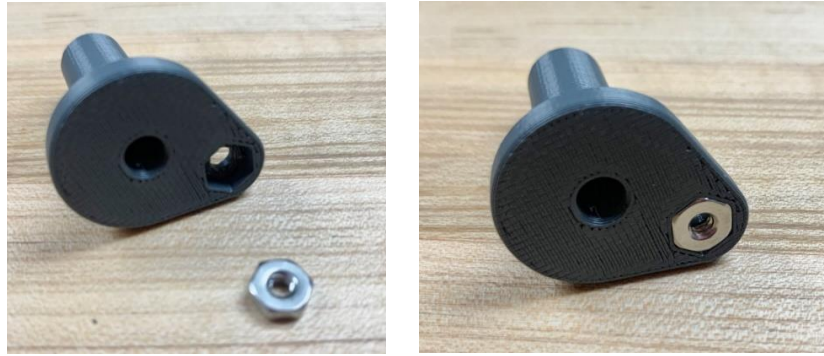

Figure 5 - Install Hex Nut in Drill Guide
9. Place the provided 6-32 hex nut into the provided drill guide (Figure 5 on the next page).